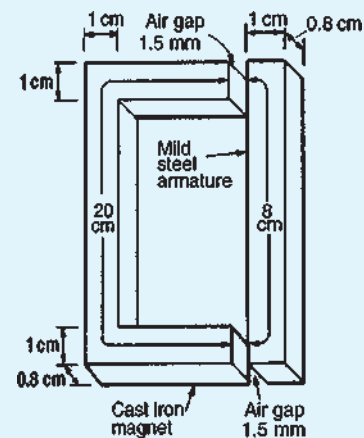

Figure 7.8
6. Figure 7.8 shows the magnetic circuit of a relay. When each of the air gaps are 1.5 mm wide find the m.m.f. required to produce a flux density of 0.75 T in the air gaps. Use the B–H curves shown on page 80. $[2970\text{ A}]$